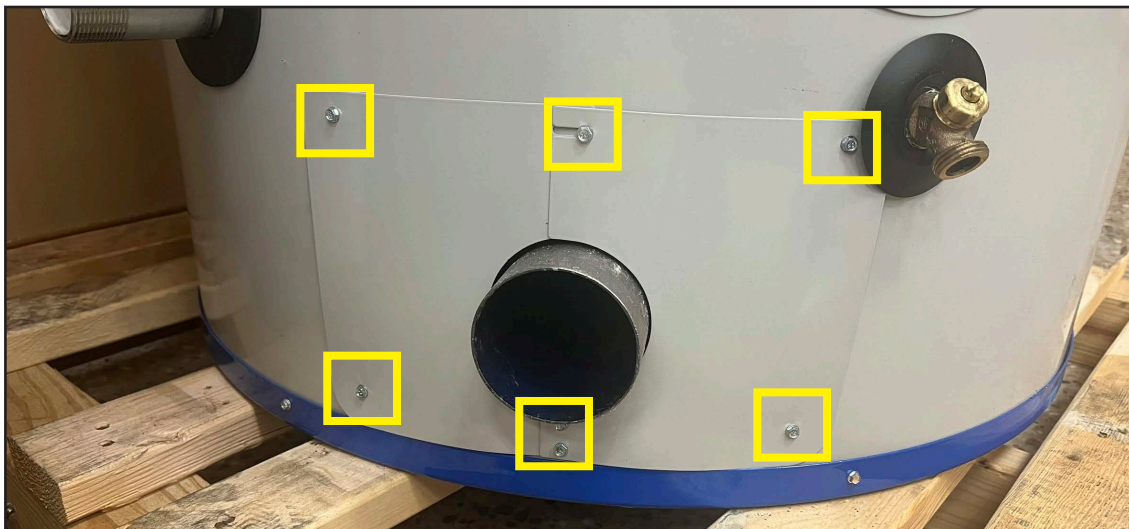

Fig. 23
4. Remove the access door to gain access to the flue gas temperature sensor (Fig 23).